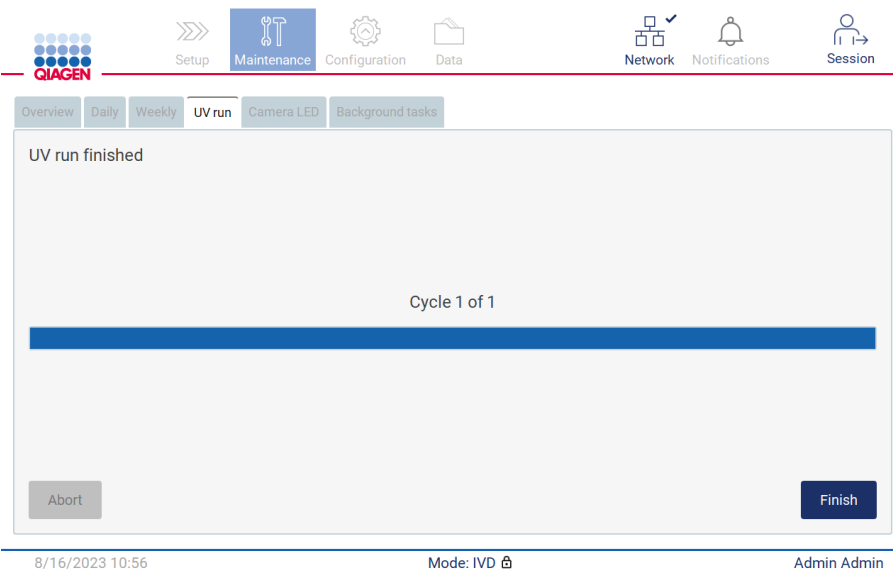

Figure 186. UV run finished screen.
7. A message (see the Figure 186 below) is displayed after execution of the UV run. Tap **Finish** to complete the UV run.